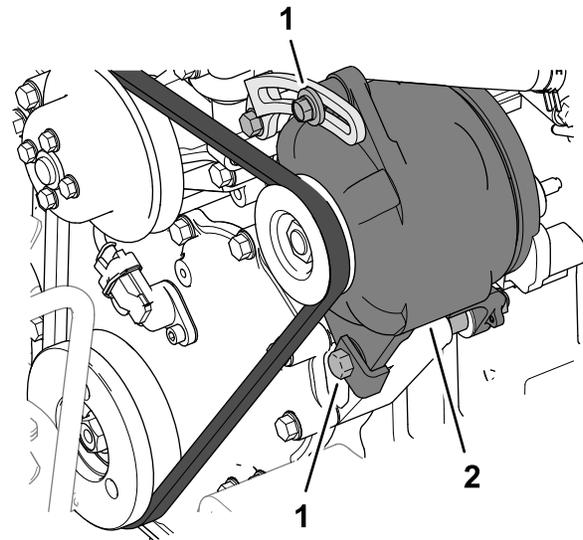

Figure 100
Check the condition and tension of the belts (Figure 100) after every 100 operating hours.
5. If belt deflection is more than or less than 10 mm (3/8 inch), loosen the alternator mounting bolts (Figure 100).